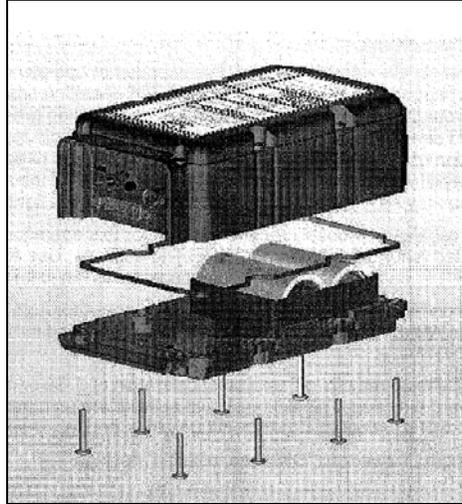

Figure 25-28 ELT Battery Replacement
4. Remove eight (8) securing screws from the battery-side cover as shown in Figure 25-28. Identify the battery pack by the embossed text "BATTERY ACCESS ON THIS SIDE".